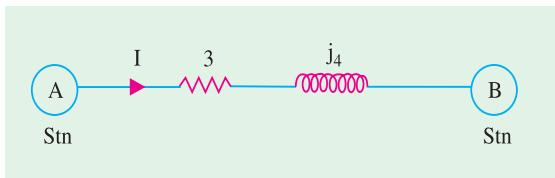

Fig. 41.61
**Solution.** With reference to Fig. 41.61,